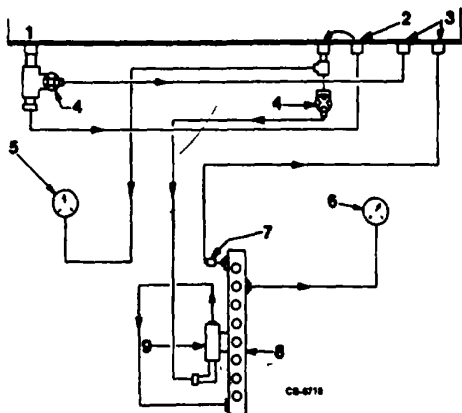

Figure 4. Calibrating Stand Low Pressure Plumbing
- e. Attach supply and return (low pressure) lines between injection pump and calibrating stand (Figure 4). If possible use transparent hoses for both inlet and return lines so that condition of oil can be observed as it flows through pump. This will assure operator that pump is receiving a solid charge of calibrating oil.